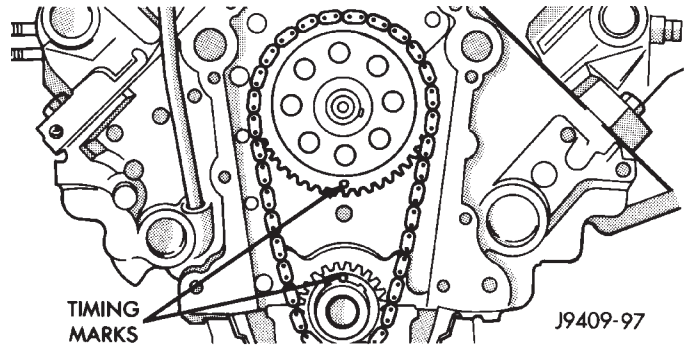

Fig. 31 Alignment of Timing Marks
(3) Hold tool in position with a distributor lock-plate bolt. This tool will restrict camshaft from being pushed in too far and prevent knocking out the welch plug in rear of cylinder block. **Tool should remain installed until the camshaft and crankshaft sprockets and timing chain have been installed.**
(4) Install camshaft thrust plate and chain oil tab. **Make sure tang enters lower right hole in thrust plate.** Tighten bolts to 24 N·m (210 in. lbs.) torque. Top edge of tab should be flat against thrust plate in order to catch oil for chain lubrication.
(5) Place both camshaft sprocket and crankshaft sprocket on the bench with timing marks on exact imaginary center line through both camshaft and crankshaft bores.
(6) Place timing chain around both sprockets.
(7) Turn crankshaft and camshaft to line up with keyway location in crankshaft sprocket and in camshaft sprocket.
(8) Lift sprockets and chain (keep sprockets tight against the chain in position as described).
(9) Slide both sprockets evenly over their respective shafts and use a straightedge to check alignment of timing marks (Fig. 31).
(10) Install the camshaft bolt/cup washer. Tighten bolt to 68 N·m (50 ft. lbs.) torque.
(11) Measure camshaft end play. Refer to Specifications for proper clearance. If not within limits install a new thrust plate.
(12) Each tappet reused must be installed in the same position from which it was removed. **When camshaft is replaced, all of the tappets must be replaced.**